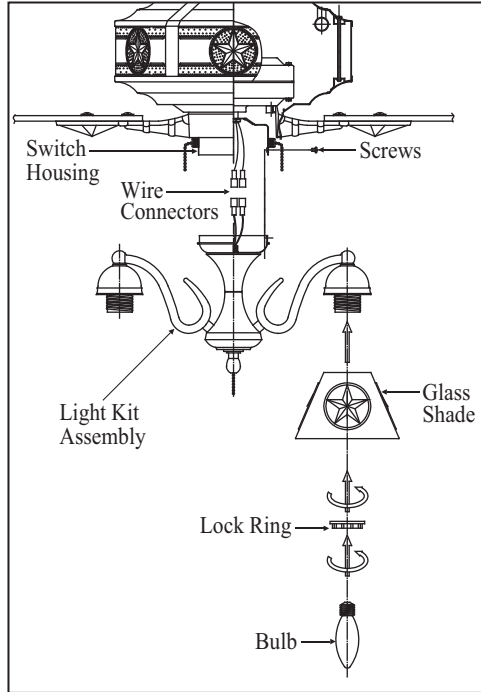

Figure 20
1. While holding the light kit assembly under your fan, Make the polarized plug connections: (Figure 20)
2. Carefully push all wires back into the switch housing, then install the light kit assembly onto the switch housing with 3 screws provided. Be sure to tighten all screws. (Fig. 20)
3. Remove the lock ring from the socket by turning the lock ring clockwise until it unlocks. Insert the glass into the glass holder and turn the lock ring counter-clockwise to tighten the glass. Repeat for the remaining glass. (Fig. 20)